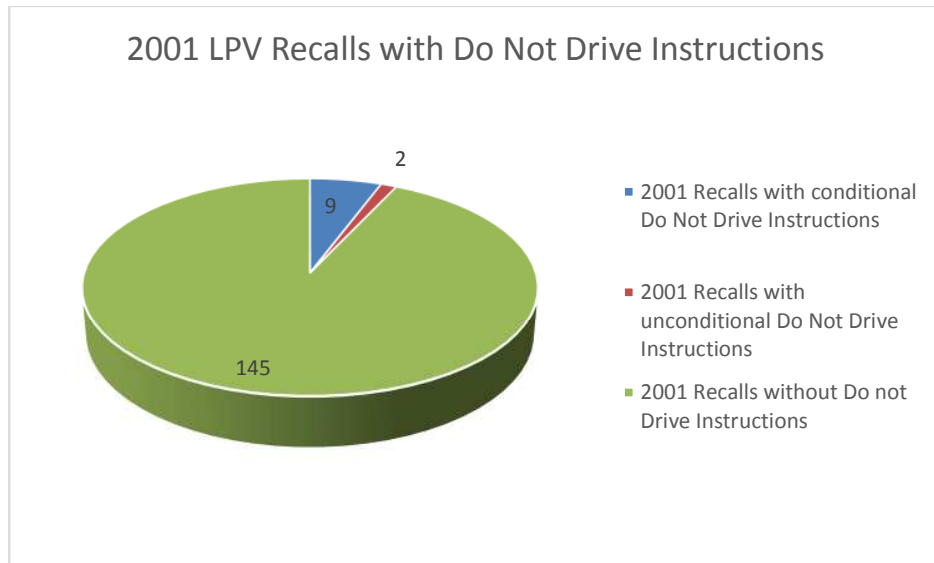

Figure 13. 2001 LPV Recalls with Do Not Drive Instructions
Eleven (11) of the one hundred fifty six (156) 2001 LPV recalls contained DND instructions. Nine (9) of those DND instructions were conditional upon owner detection of a defect. Two (2) recalls had an unconditional “do not drive” vehicle recommendation. In the graph in figure 13 these two recalls are counted and categorized as recalls with “unconditional” DND instructions. For the text detailing the DND instructions for the 2001 LPV recalls see Appendix A-13.